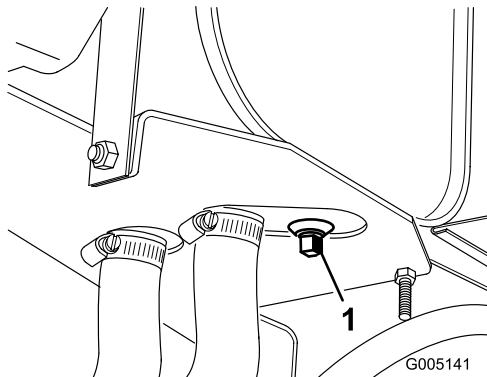

Figure 47
1. Remove the drain plug from the reservoir (Figure 47) and let hydraulic oil flow into a drain pan. Reinstall and tighten the plug when hydraulic oil stops draining.